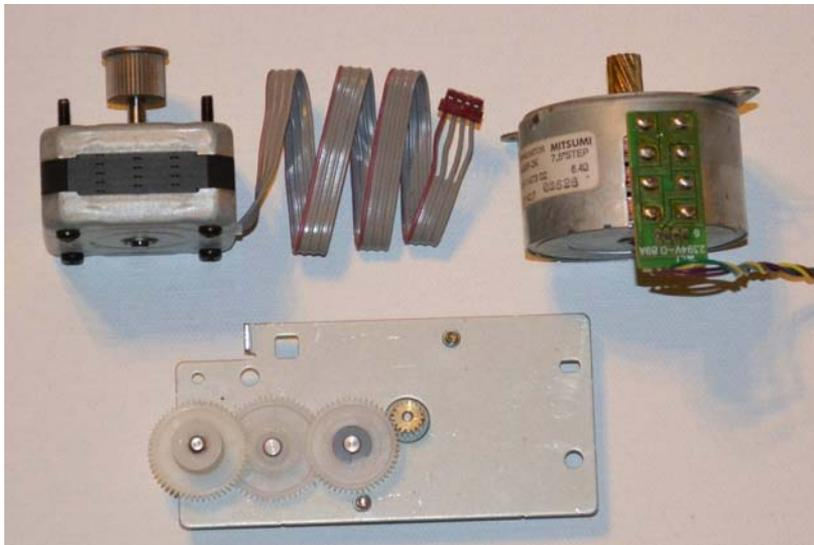

Figure 3-4. A few bipolar stepper motors, noted as having four wires on each motor
- *Bipolar*: These stepper motors have two coils that are typically identified by having exactly four wires (see Figure 3-4). Each set of wires is connected to a motor coil and can be identified by measuring the coil resistance with a multi-meter. Each coil in the stepper motor must be switched in a special sequence in order to turn the output shaft—requiring that each of the four motor wires must be driven by its own signal amplifier to operate the motor (or a dual motor-controller).